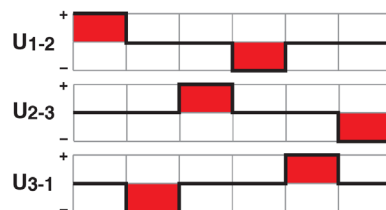

Figure 6-46 Block commutation of EC (BLDC) motors – Definition of phases
- either ensure that the alignment follows the specified pattern (→ Figure 6-46)